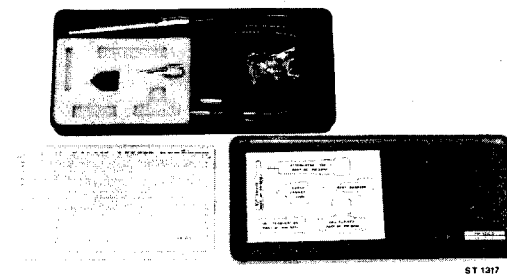

Fig. 2. HF-probe PM 9210
3.2.1. HF probe type PM 9210 (Fig. 2) Accessory set for the probe type PM 9212 (Fig. 3).